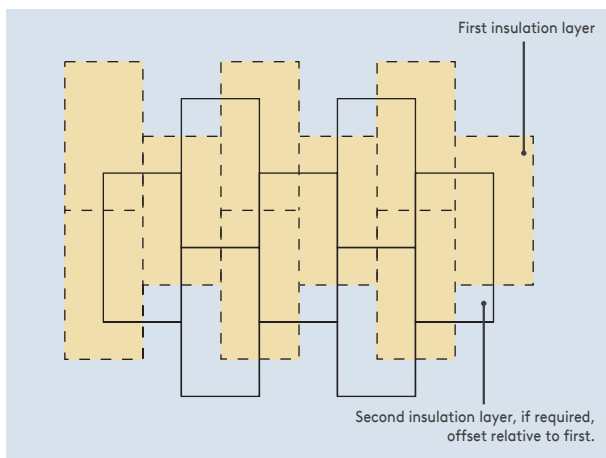

Figure 6
- In all cases, the layers should be horizontally offset relative to each other so that, as far as possible, the board joints in the two adjacent layers do not coincide with each other (see Figure 6).